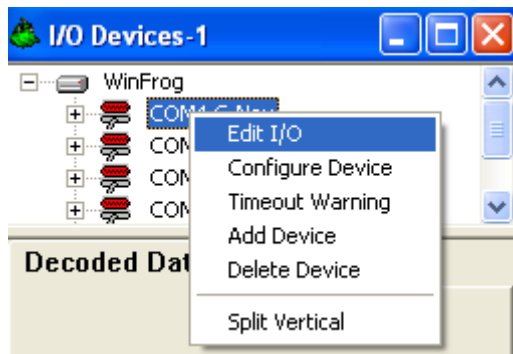

Figure 4
4.4 For "C-Nav" verify the following settings under "Edit I/O". See Figures 4 & 5.